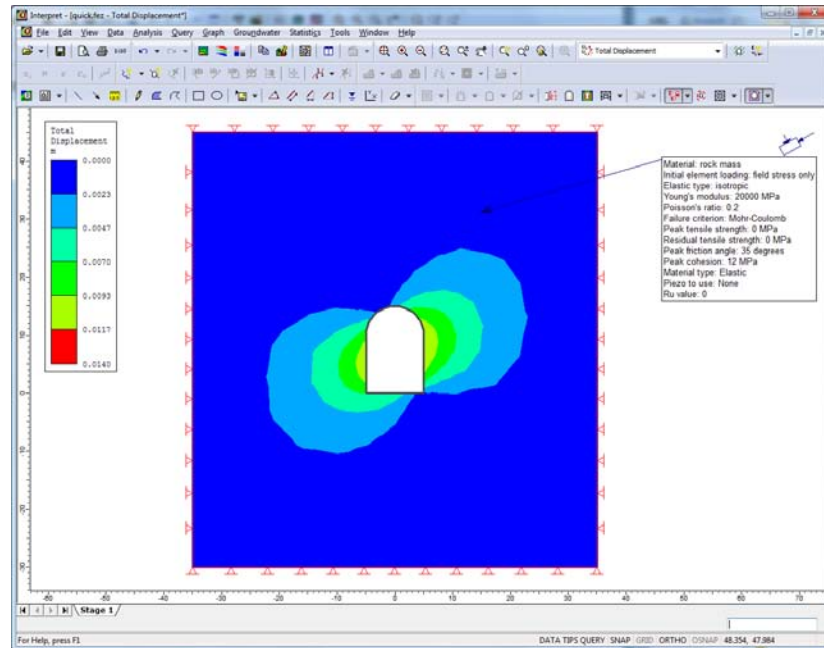

Figure 1-10: Auto-text and arrow added to view.
- Now select OK. The text is added to the view, and your screen should look similar to Figure 1-10.